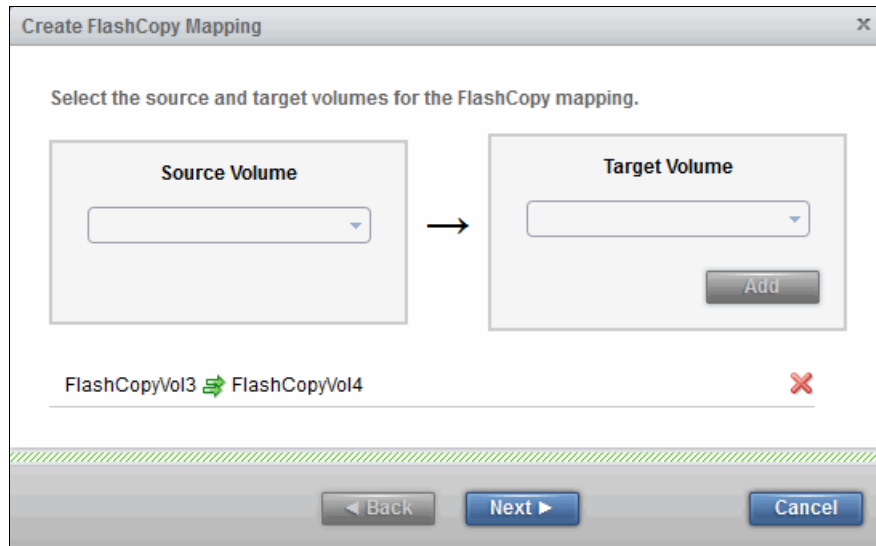

Figure 10-26 Add FlashCopy mapping
3. After you click **Add**, the FlashCopy mapping is listed, as shown in Figure 10-26. Click the red X to delete it if the FlashCopy mapping is not the one that you want to create.